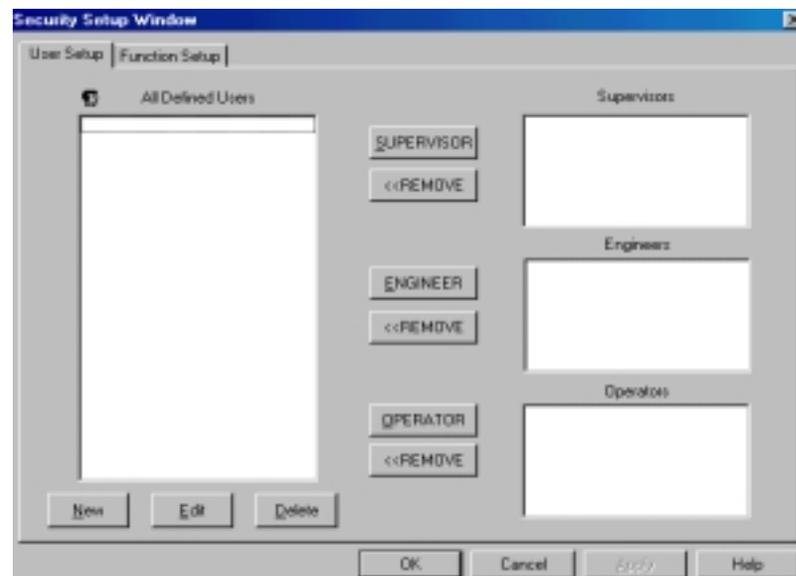

Figure 19
- b. Security displays the security setup screen that allows the user with the proper password, to enter, edit or delete users and their accessible functions. Click the Security icon on the main toolbar or from the menu bar click Utilities then Security. See Figure 19.